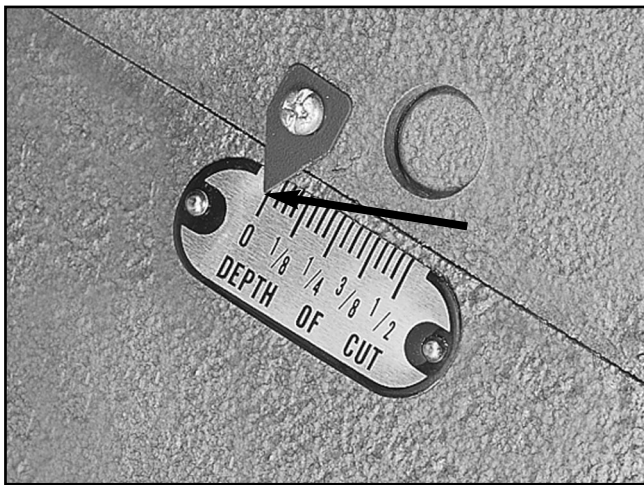

Figure 29. Depth-of-cut pointer adjusted to “0” position.
4. Adjust the depth-of-cut pointer to read “0” (Figure 29).